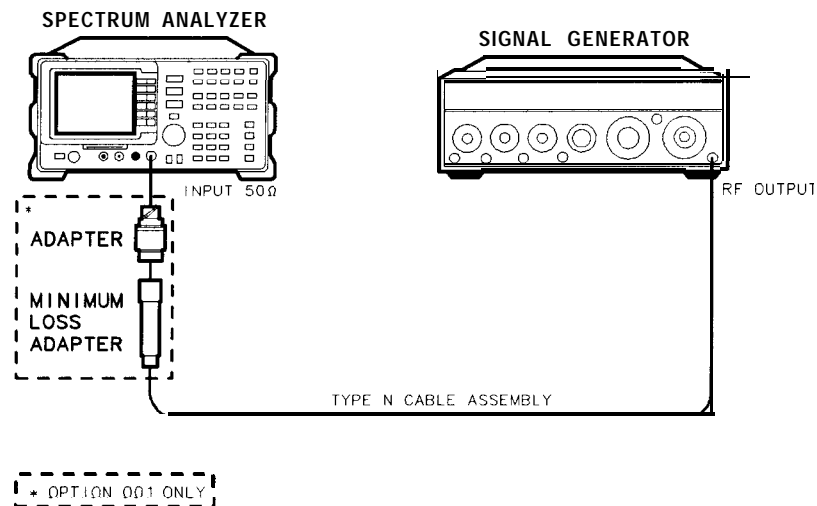

Figure 1-4. System Related Sidebands Test Setup
- Connect the equipment as shown in Figure 1-4.